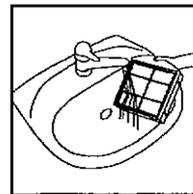

Fig. 32
- Rinse the filter assembly and permanent pre-filter screen to remove any detergent (Fig. 32).